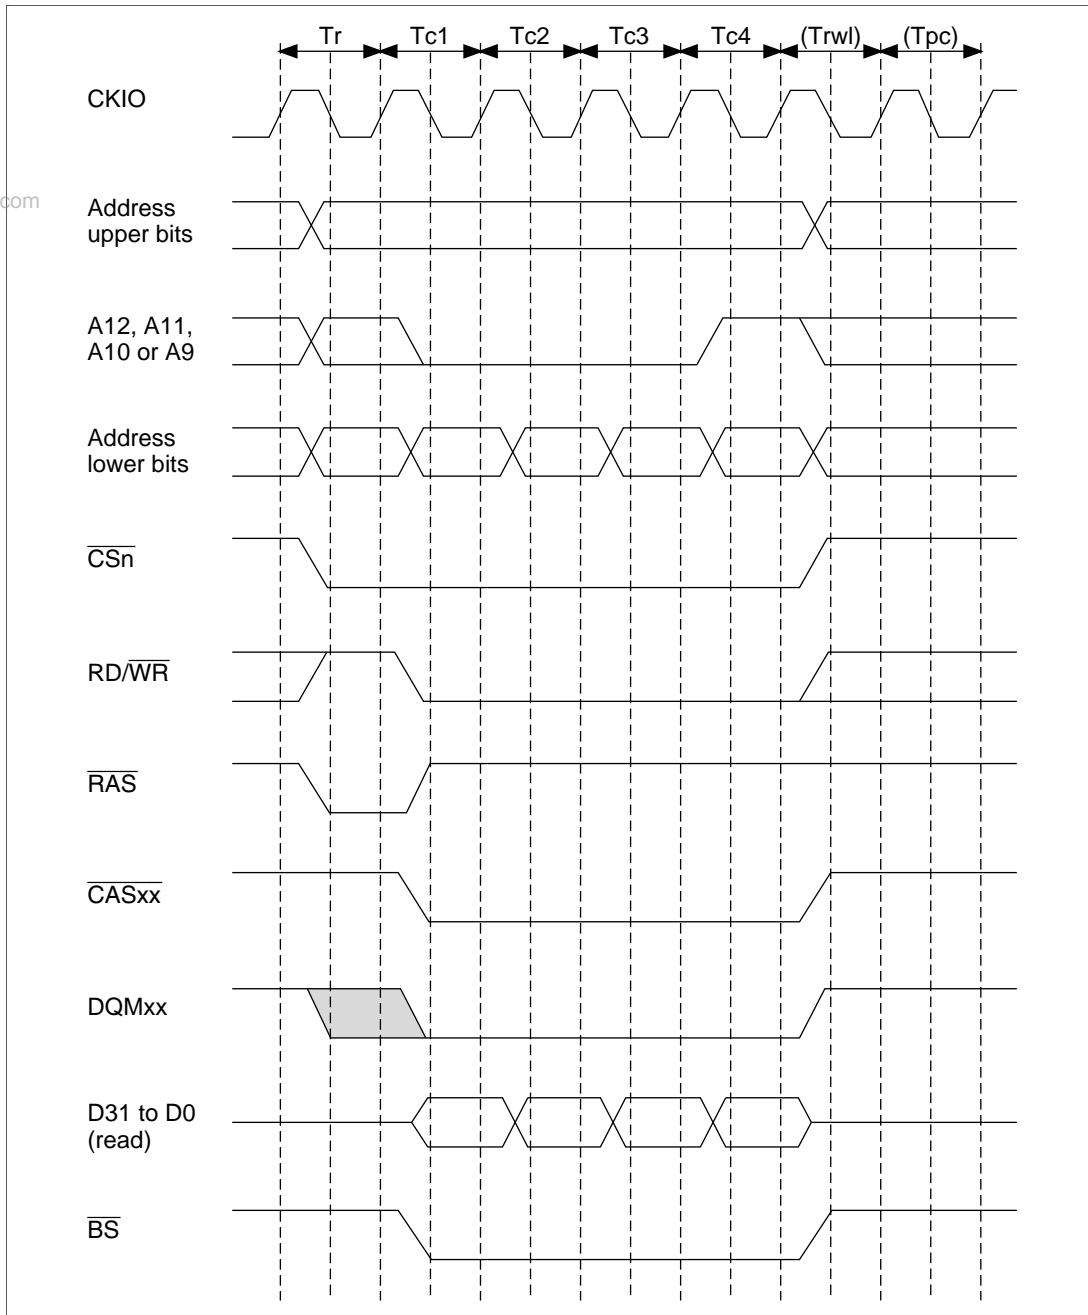

Figure 10.26 Basic Timing for Synchronous DRAM Burst Write
**Burst Write:** The timing chart for a burst write is shown in figure 10.26. In the SH7708 Series, a burst write occurs only in the event of cache copy-back. In a burst write operation, following the Tr cycle in which ACTV command output is performed, a WRIT command is issued in the Tc1, Tc2, and Tc3 cycles, and a WRITA command that performs auto-precharge is issued in the Tc4 cycle. In the write cycle, the write data is output at the same time as the write command. For the write with auto-precharge command, precharging of the relevant bank is performed in the synchronous DRAM after completion of the write command, and therefore no command can be issued for the same bank until precharging is completed. Consequently, in addition to the precharge wait cycle, Tpc, used in a read access, cycle Trwl is added as a wait interval until precharging is started, following the write command. Issuance of a new command for the same bank is postponed during this interval. The number of Trwl cycles can be specified by the TRWL bit in MCR.